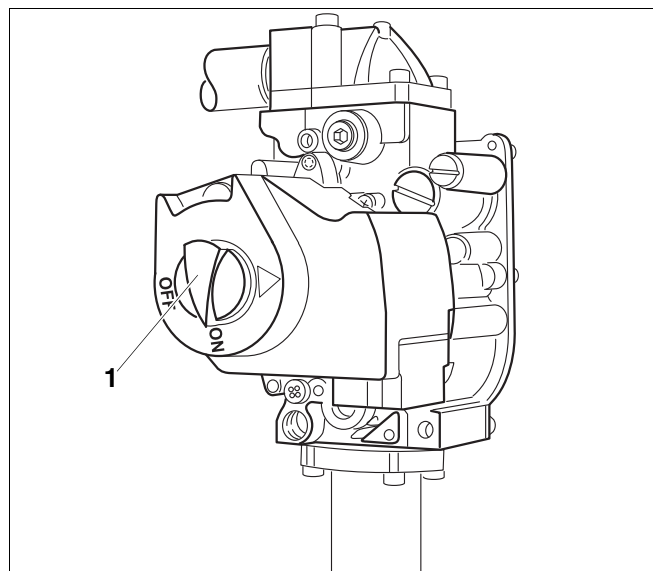

Fig. 33 Gas valve
22. If the gas valve operates correctly, proceed to step 25. If the gas valve does not operate correctly, switch ON/OFF switch (→ Fig. 33) on the gas valve clockwise to the OFF position immediately. Close main gas valve. Disconnect heating system from the power supply and inform the customer service technician or LP gas company.